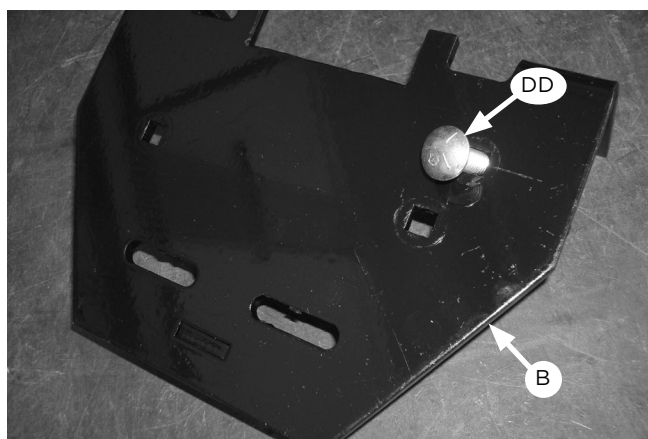
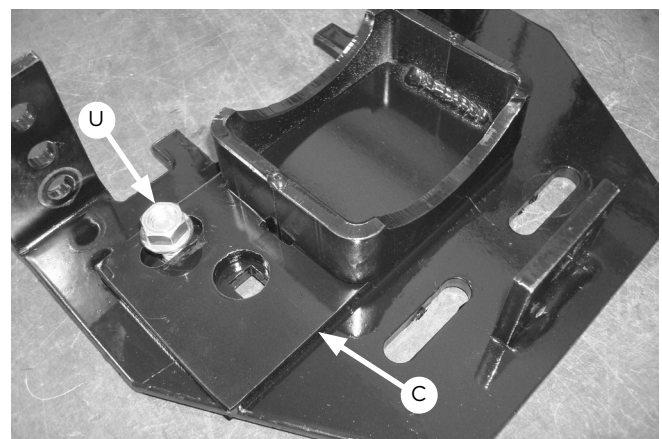

Fig. 9
Fig. 10
4. Insert a 3/8"-16 X 1" carriage bolt (DD) through the top of the lower bracket (B) as shown in Fig. 9. Flip the assembly over and set the lower bracket cup (C) onto the lower bracket and over the carriage bolt (Fig. 10). Cap with 3/8"-16 serrated flange lock nut (U) and snug the nut only. Leave loose enough for the bracket to move freely in the slot.